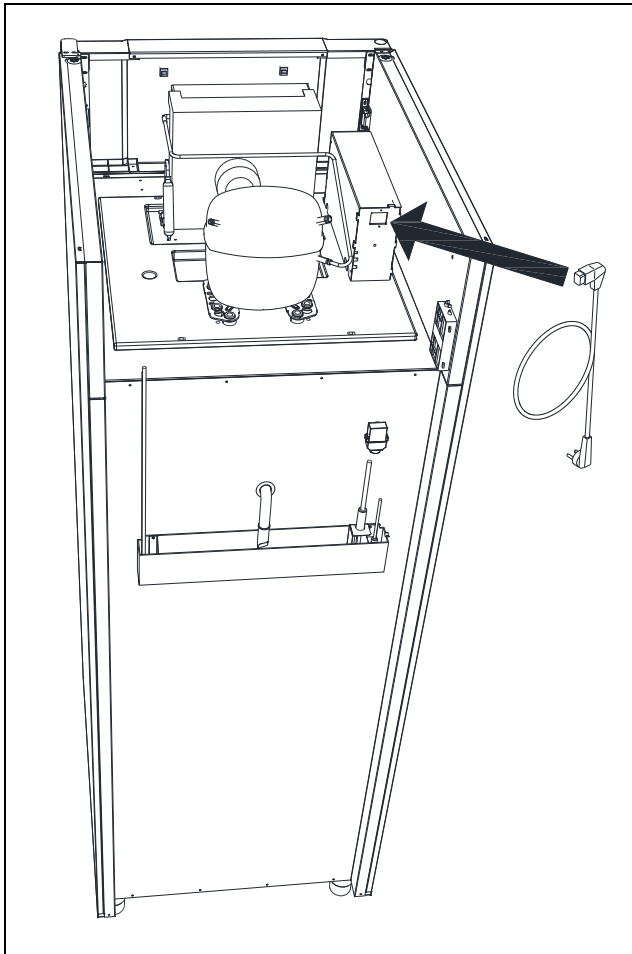

Fig. 7
The cabinet is intended for connection to alternating current. The connection voltage (V) and frequency (Hz) are shown on the name plate in the cabinet (see Fig. 10). Only the supplied detachable cord is to be used (see Fig. 7).